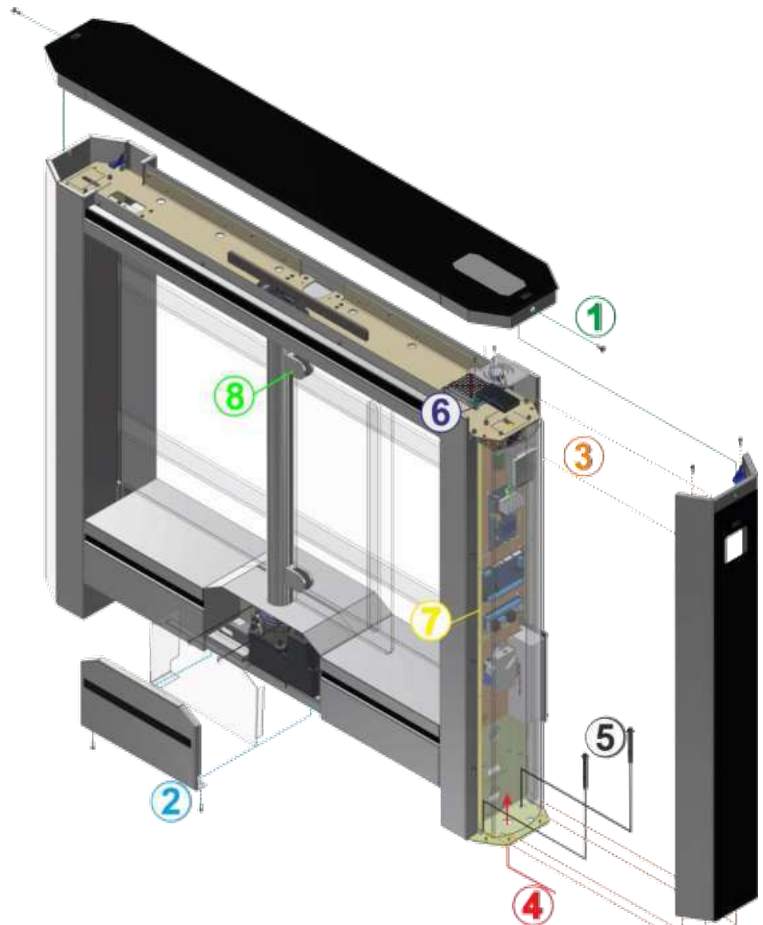

Fig. 20 - General view of the "Sweeper-WP-1" turnstile cabinet installation
2. - Remove the door and protective curtain (See Fig. 20);